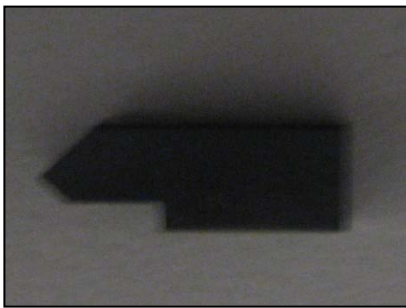

Figure 9
Step 2 - The old blade can be removed and the new blade inserted into the cleaver. Please note the orientation of the blade when installing. The stepped edge shown in Figure 9 should be inserted away from the screw.